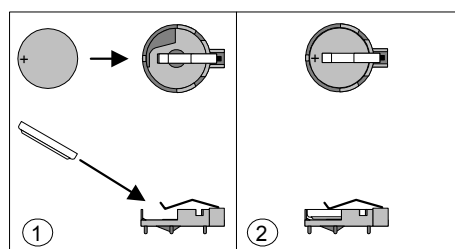

Figure 17: Removing the Battery
5. Figure 1 shows the battery location. Gently pry the battery free from its socket, taking care to note the "+" and "-" orientation of the battery (Figure 17).